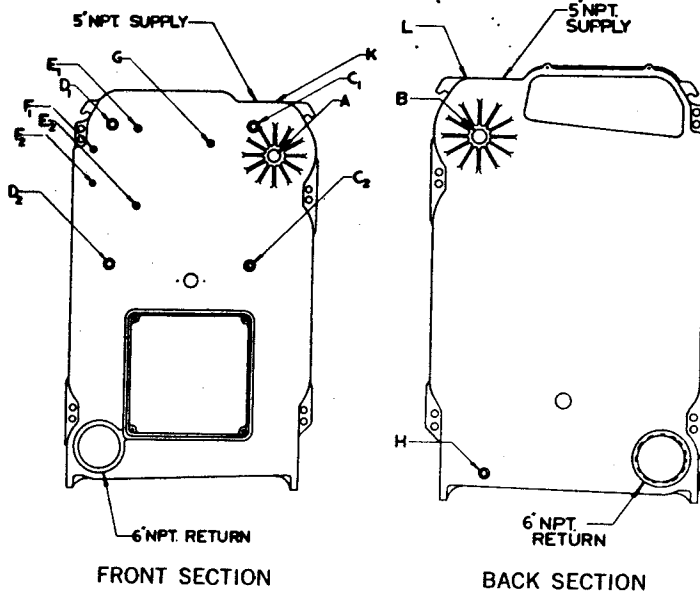

FIGURE 6
2. Secure a drain cock (not supplied) to the boiler or boiler piping (size to ASME Code requirements). Refer to FIGURE 6 and the CONTROL TAPPING TABLE.
5. Plug all remaining boiler tappings, including the returns. Refer to FIGURE 6 and the CONTROL TAPPING TABLE.
- Drain the entire boiler and remove plugs from those tapings which will be used for controls or accessories. Refer to FIGURE 6 and the CONTROL TAPPING TABLE.